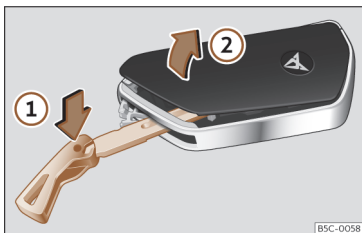

Fig. 70 Vehicle key: open the battery compartment cover.
- Insert the key blade into the slot >>> Fig. 70, press it in the direction of arrow ① and detach the cover by levering it ②.